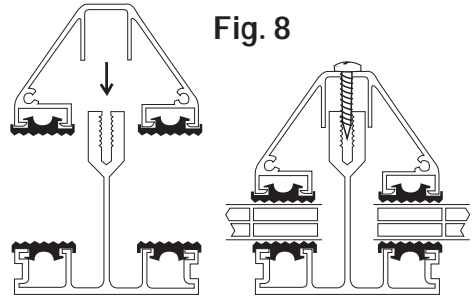
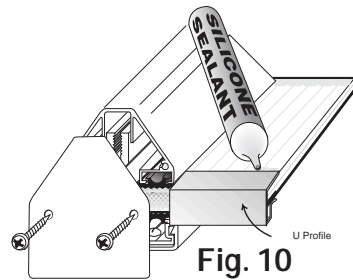

Fig. 8
Fig. 10
Step 10: Fix the top U profile (Ref. 252-255) over the sheet (Fig. 10). Locate the sheet over the 283 base bar leaving room for expansion. Ensure the sheet is level and then fit the glazing bar cap (Ref. 280) using the recommended screws, protecting them with the screw cover cap (Fig. 8).
Step 13: Accurately cut the aluminium U profile (Ref. 252-255) to the appropriate length and fix over the antidust tape at the eaves end of the sheet between the end plates. If you wish a small bead of silicone sealant can be applied to the upper side of the sheet long the line where it meets the U profile (Fig. 10) and smooth to give a neat finish. Only use silicone sealant that is compatible with multiwall polycarbonate.